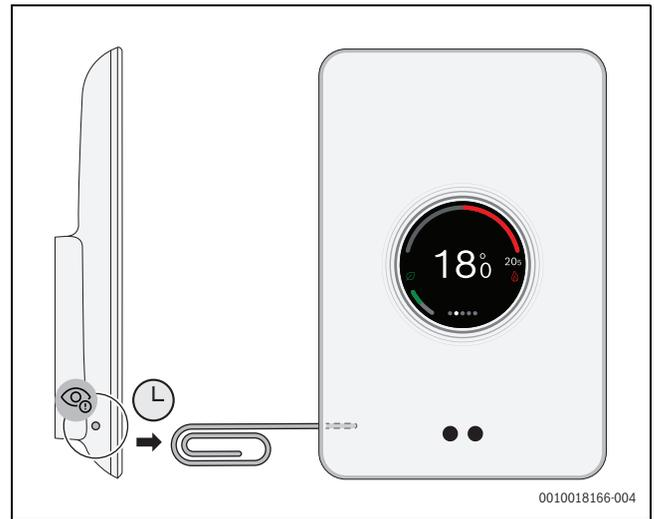

Fig. 22 Hard reset
- ▶ Press and hold the reset button (→ Fig. 22) for a few seconds. **Attention!** All personalised settings are deleted and the WLAN connection must be established again (→ Chapter 5.4).